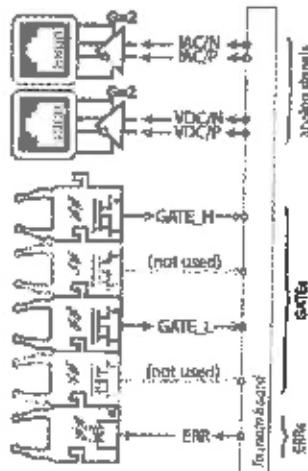

Fig. 1. Functional view of the optical mezzanine.
- The optical mezzanine (Fig. 1) is meant to provide basic input/output support, featuring optical inputs and analog outputs. Additionally, the error signal is also relayed to the master controller.